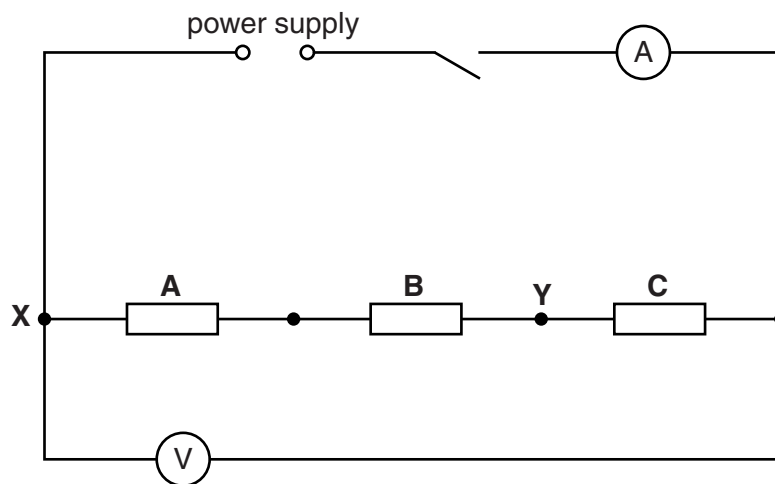

Fig. 3.1
- (vi) Sufficient connecting leads to construct the circuit shown in Fig. 3.1, with two additional leads. See note 3.
1. The circuit is to be connected by the Supervisor as shown in Fig. 3.1.
Set up the circuit so that it is arranged as shown in Fig. 3.1.